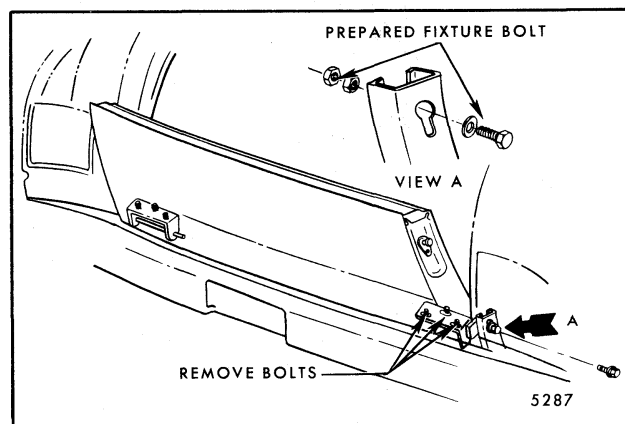

Fig. 7-136-Tailgate Position For Removal
NOTE: Refer to Figure 7-136 and prepare a 1/4" 20 x 1" fixture bolt to serve as a roller stop for subsequent removal steps. In addition, tape a doubled fender cover or equivalent to upper surface of bumper face bar to protect gate.
3. Insert fixture bolt and nut assembly into key slot at upper end of right channel guide assembly below roller to hold synchronizing tube assembly in position during tailgate removal (Fig. 7-136).